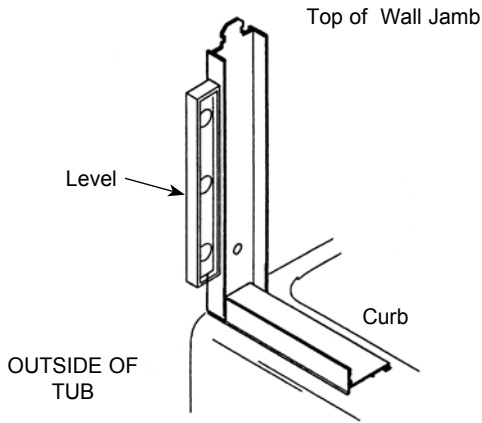

Figure 4
- B. Place the left Wall Jamb (#3L) against the left wall and slip/snap the bottom of the Wall Jamb (#3L) over the Curb (#2). Use a Level held against the side of the Wall Jamb (#3L) to align it vertically straight up and down as shown in Figure 4. Use a Pencil to mark the position of each of the three pre-drilled holes in the left Wall Jamb (#3L). Set the Wall Jamb (#3L) aside for the moment.